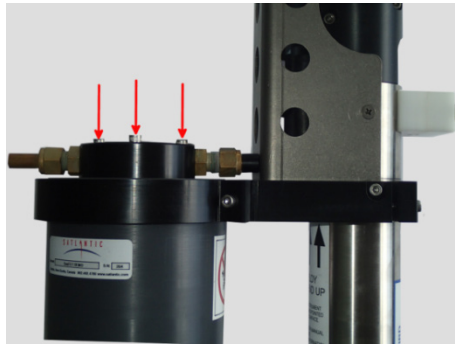

Figure 4
6. Using a 5/32" hex driver, reinstall the 3 screws in the flow cell (Figure 4).